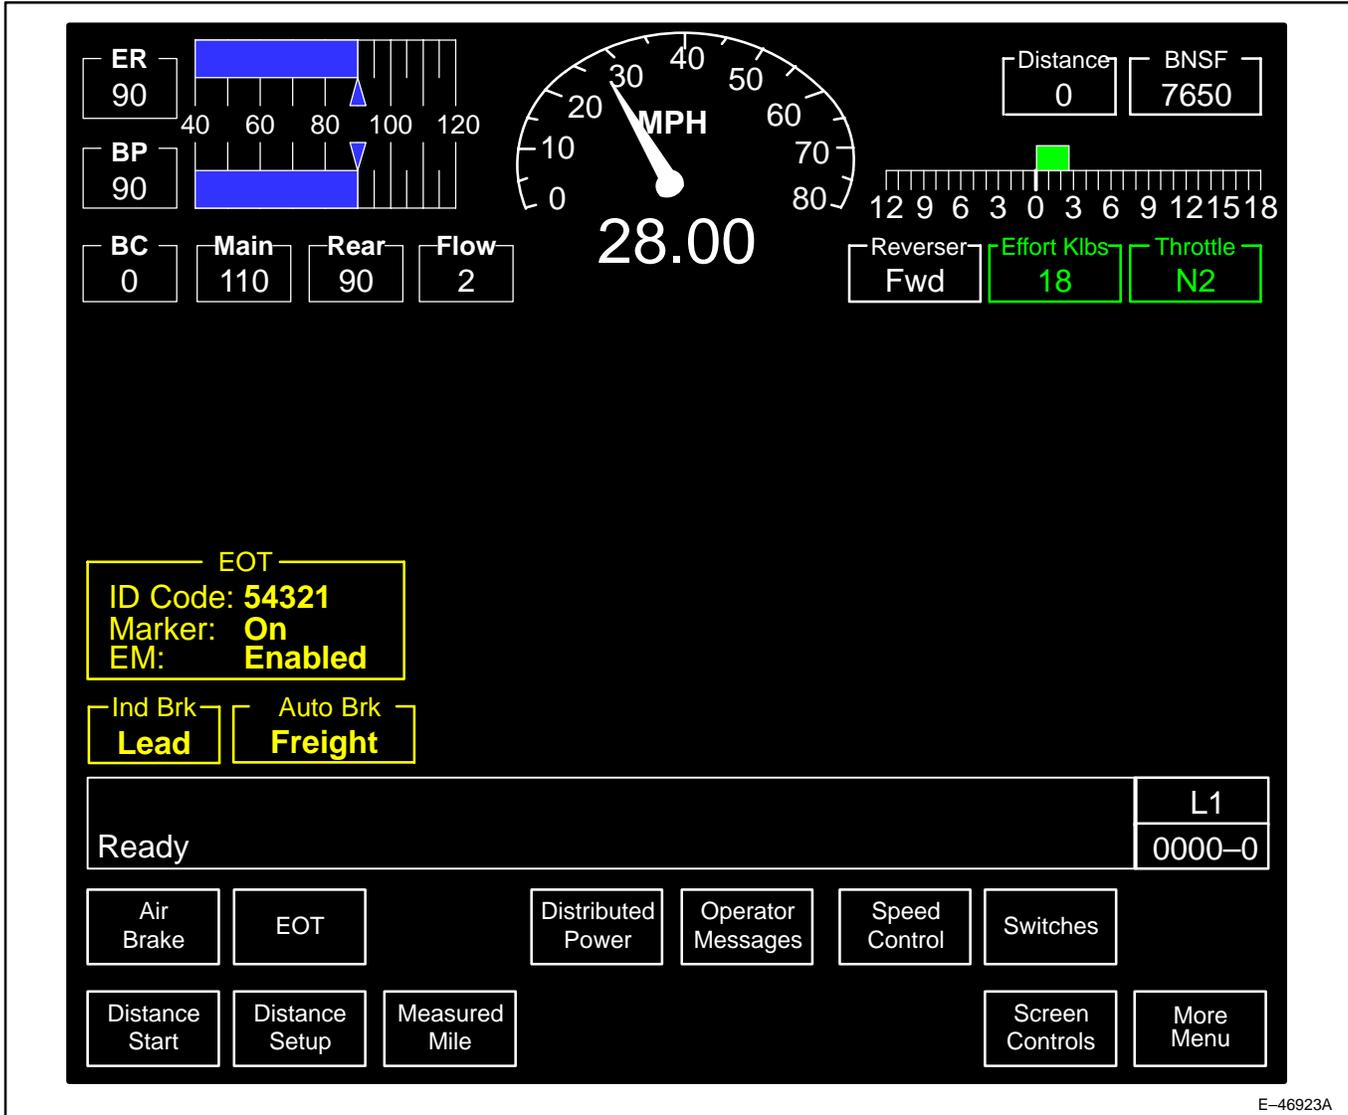

Figure 65. Main Operation Screen, AESS Inactive.
1. When AESS is inactive, the Main Operation Screen will display as screen 0000-0 (Figure 65).